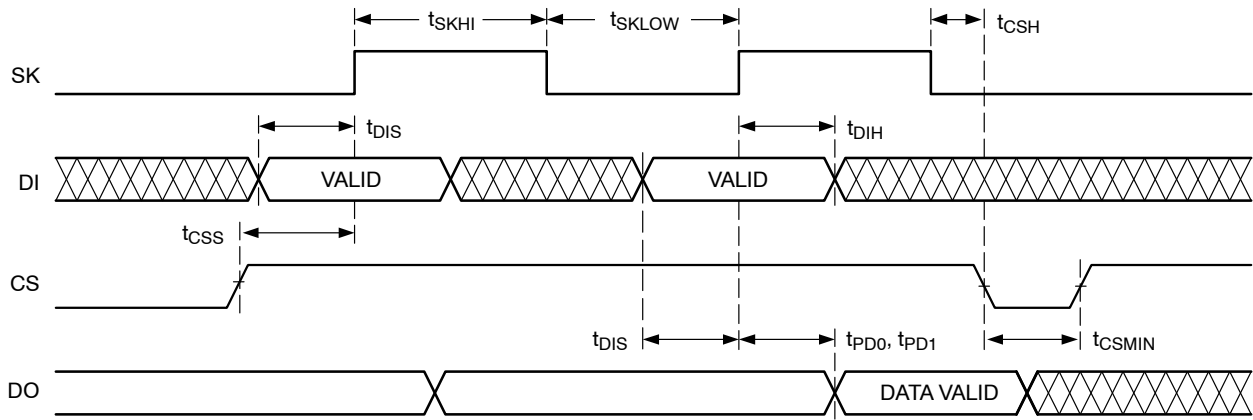

Figure 2. Synchronous Data Timing
Instructions, addresses, and write data are clocked into the DI pin on the rising edge of the clock (SK). The DO pin is normally in a high impedance state except when reading data from the device, or when checking the ready/busy status during a write operation. The serial communication protocol follows the timing shown in Figure 2.